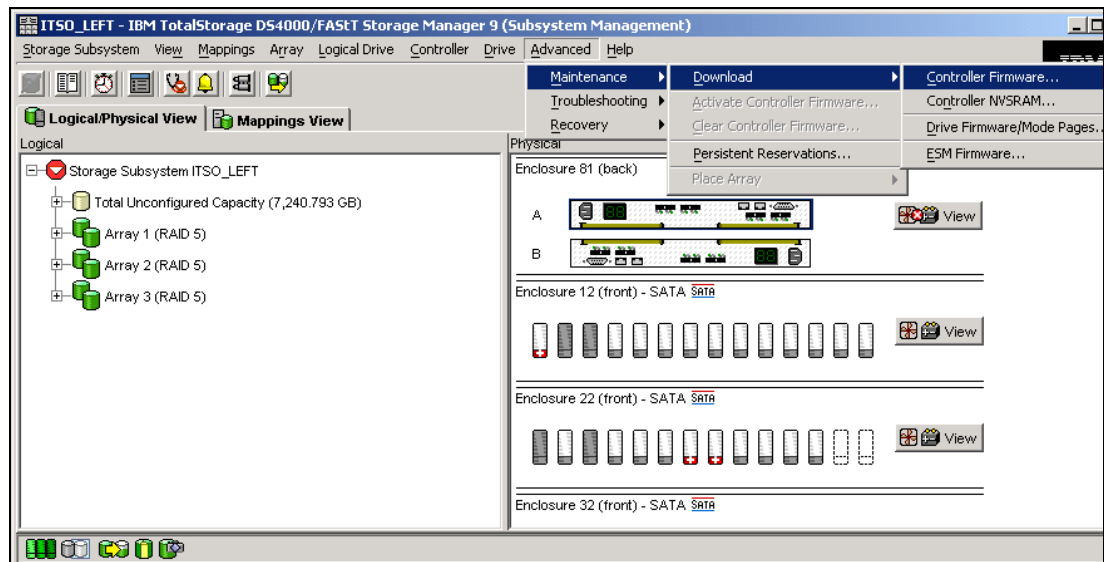

Figure 3-44 Subsystem Management window - Controller firmware update
1. Open the Subsystem Management window for the DS4000 Storage Server you want to upgrade. To download the firmware select **Advanced** → **Maintenance** → **Download** → **Controller Firmware**, as shown in Figure 3-44.